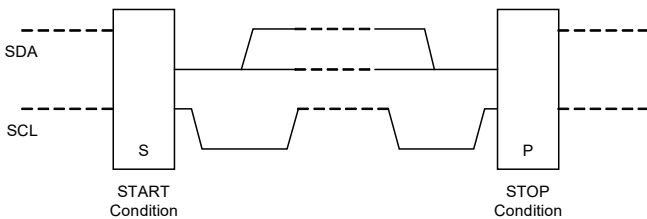

Figure 14. I²C Start and Stop Conditions
The SGM37603 is configured via an I²C interface. START (S) and STOP (P) conditions classify the beginning and the end of the I²C session (see Figure 14). A START condition is defined as SDA transitioning from high to low while SCL is high. A STOP condition is defined as SDA transitioning from low to high while SCL is high. The I²C master always generates the START and STOP conditions. The I²C bus is considered busy after a START condition and free after a STOP condition. During the data transmission the I²C master can generate repeated START conditions. A START and a repeated START conditions are equivalent function-wise. The data on SDA must be stable during the high period of the clock signal (SCL). In other words, the state of SDA can only be changed when SCL is low.